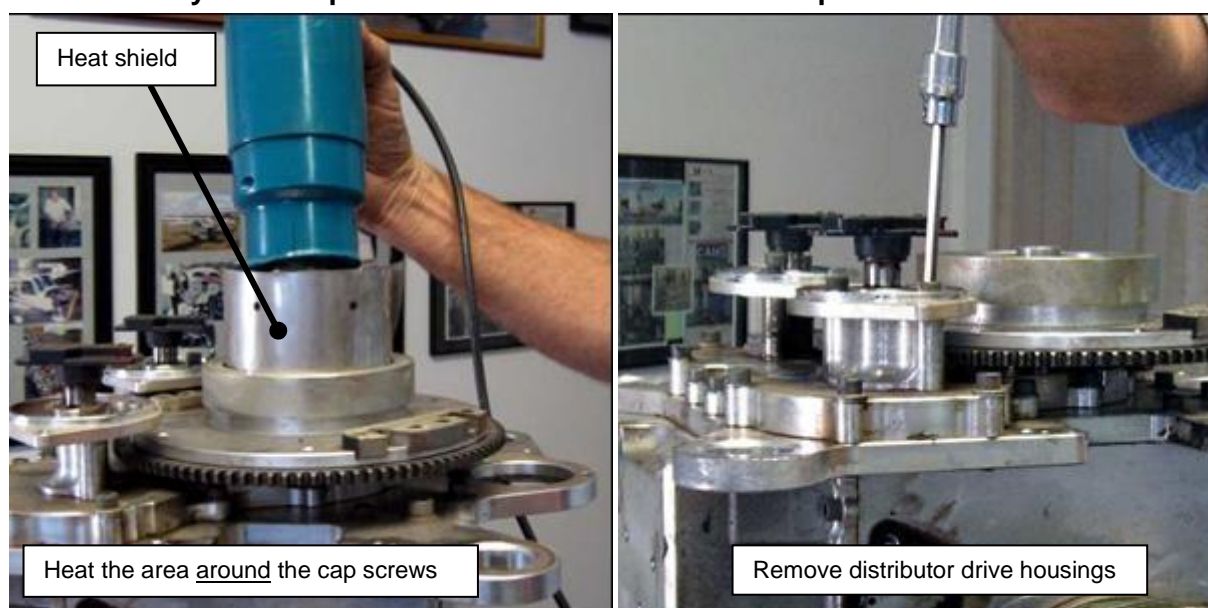

Figure 47 – Removing Flywheel Cap Screws & Distributor Drive Housings
- Undo the Allen head cap screws and remove the 2 machined distributor gear drive housings from the timing case as shown in Figure 47.